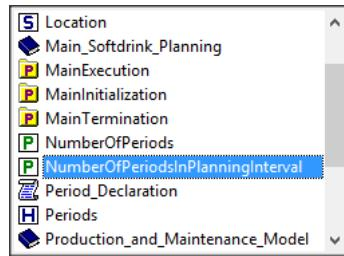

Figure 6.10: The Name Completion pop-up menu
- ▶ use the *Ctrl-Spacebar* key combination to let AIMMS provide you with the list of all identifiers and let AIMMS select the first possible extension of the letter ‘N’ (see Figure 6.10), and